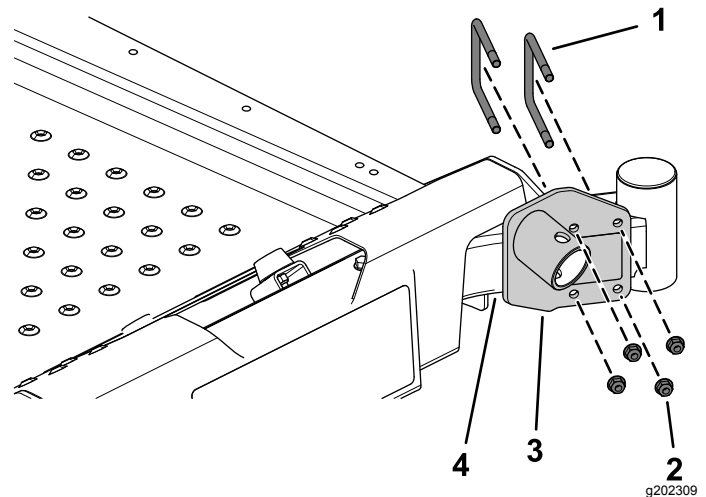

Figure 1
3. Secure the jack mount to the left front axle-tube using 2 U-bolts and 4 flange nuts (Figure 1).